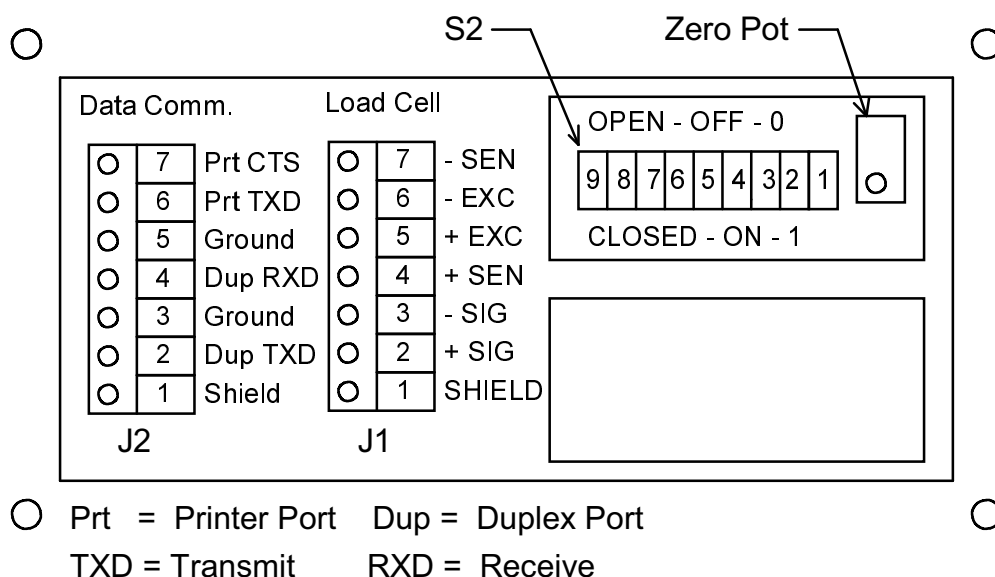

Figure 1. 8600M Quick Access Port Connections
There are two communication ports on the Model 8600, a bi-directional (duplex) serial port and an output-only serial printer port. Both ports are default configured as RS232 and the default connections are shown in figure 1. Other configurations are available and can be ordered as required or configured as stated in Section 10.
- B. Close SW2, #9 to enter the setup mode (see figure 1 or 2).
- A. If not already in the setup mode, close SW2 #9 (see figure 1 or 2).
- A. If not already in the setup mode, close SW2, #9 (see figure 1 or 2).